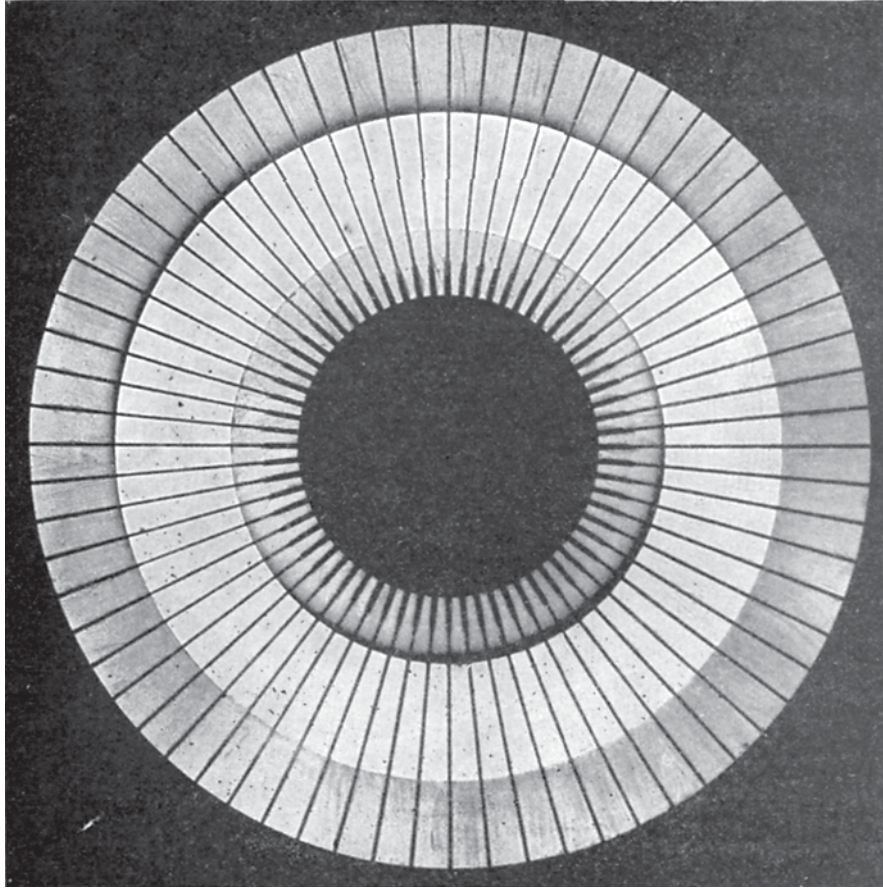

Fig. 85. Needle Plate.
**Dial Needle Plate.** Fig. 85 represents the dial needle plate, and illustrates the principle on which these machines are built. As the needles are operated from the outside towards the center, and the butts of the needles on which the actuating cams operate are farther from